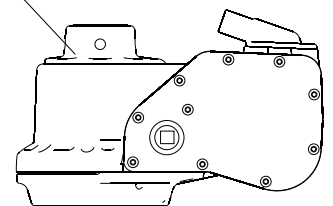

Fig. 5.3.c
4. Turn the motor unit upside down. See fig. 5.3.c. Remove the flange ring and insulating washer. Turn the motor unit right way up.